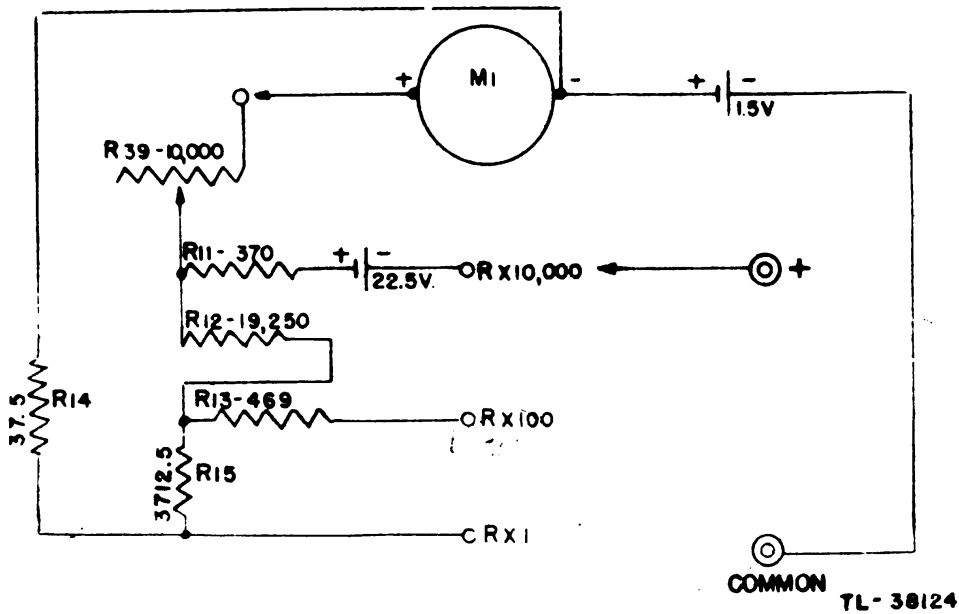

Figure 9. Test Set, I-179, simplified ohms circuit.
13. TEST SET I-179 AS AN OHMMETER (fig. 9).